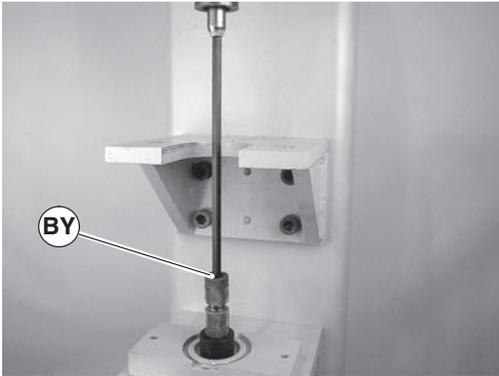

Figure 61
5. Press bearing (Figure 61, item BY) out of pulley.